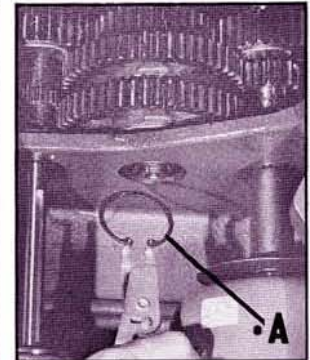

Fig. 11
11. Remove large snap ring (A) Fig. 11, from bottom of gear train.
16. Assemble the large snap ring (A) Fig. 11, to bottom of gear train. Press down at the top of the shaft and gear so that the lower bearing is bottomed against the snap ring (A) Fig. 11.